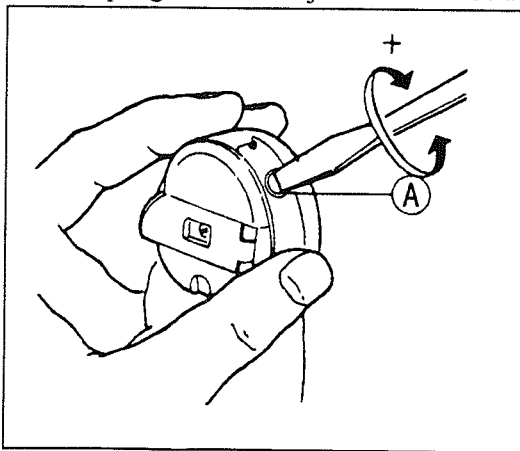

Fig. 12
13. ADJUST THREAD TENSION (Fig.12,13)